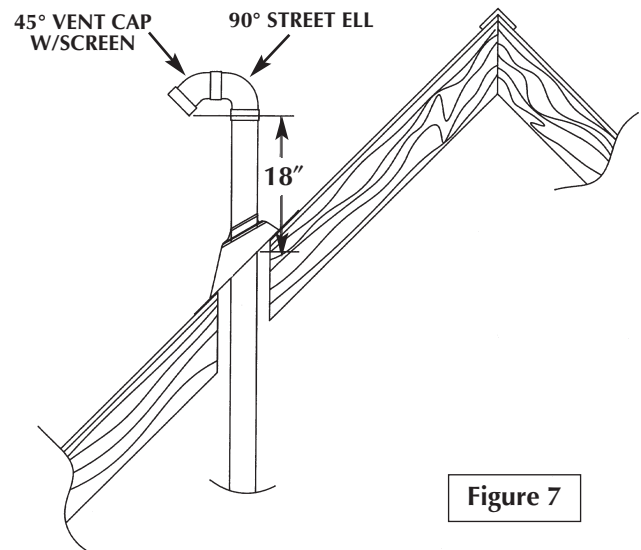

Figure 7
- The vent exhaust outlet and air inlet terminals shall terminate at least 18 inches above the roof surface. Figure 7.